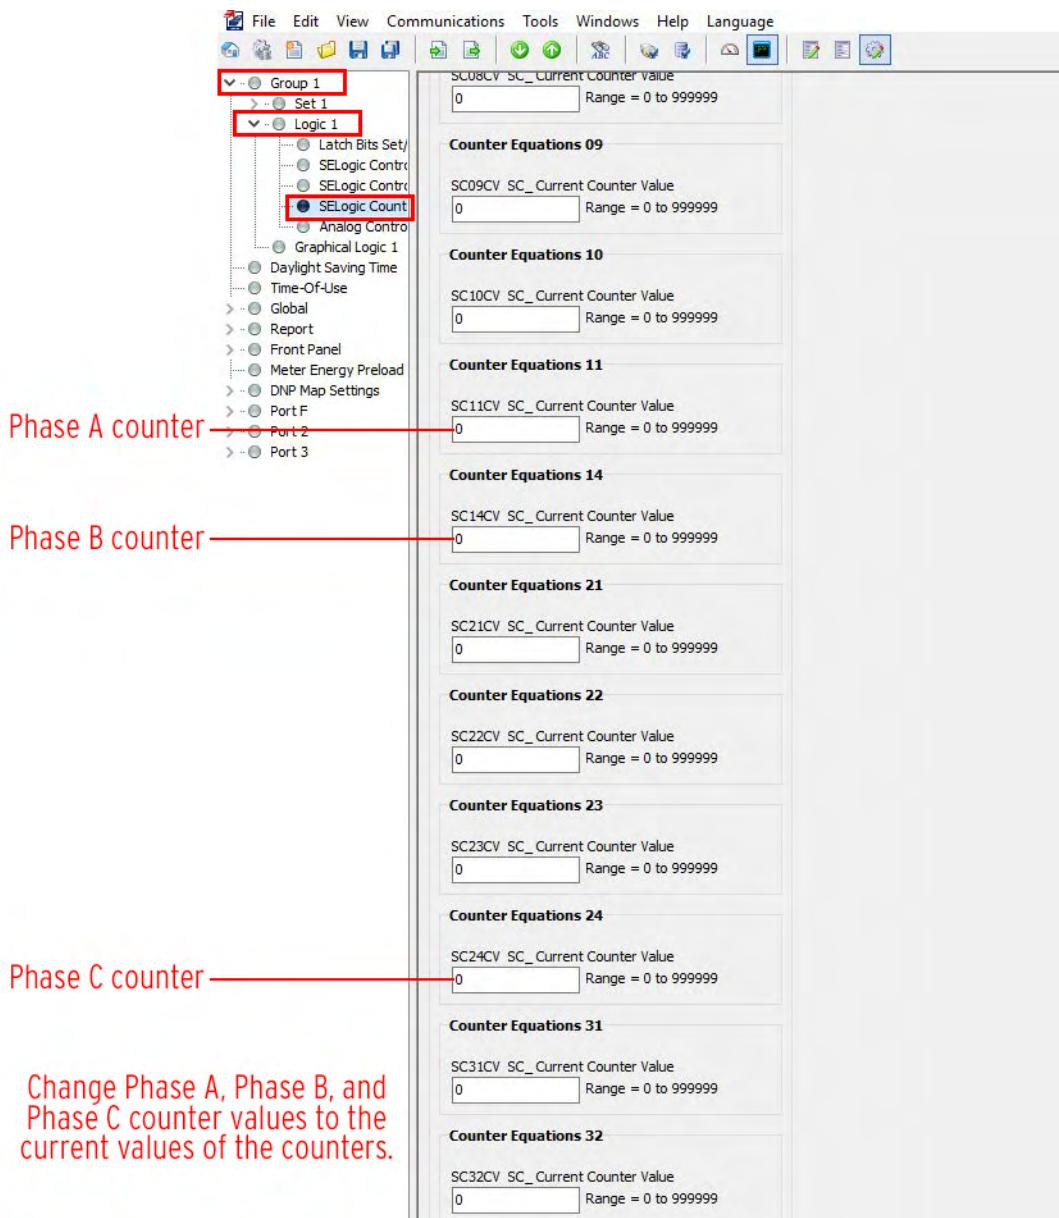

Figure 6.4 SEL-734B Counter Equations Settings in the Settings Editor View
Step 4. Enter the current value of the operation counter obtained in Step 1 into the boxes indicated in Figure 6.4.